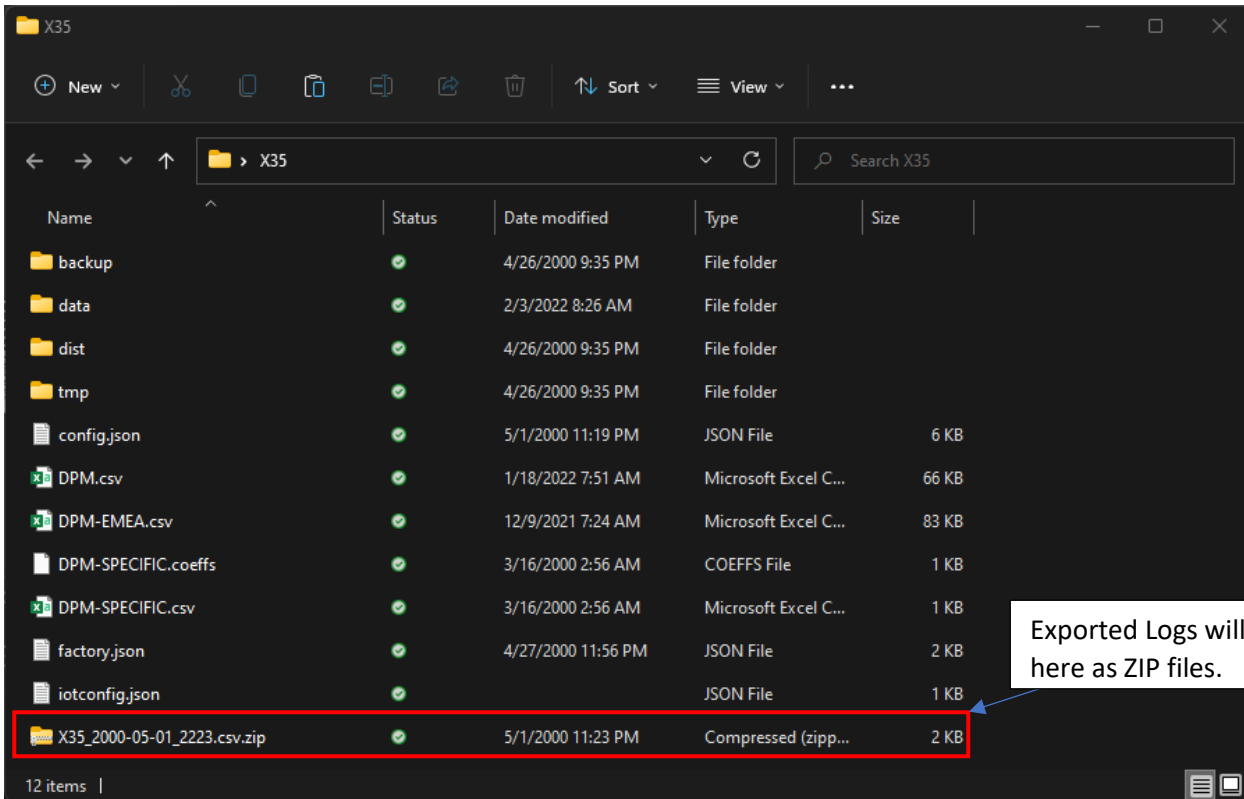

Figure 4.40
1. Insert the SD card into your PC and locate the Root directory shown in **Figure 4.40**.